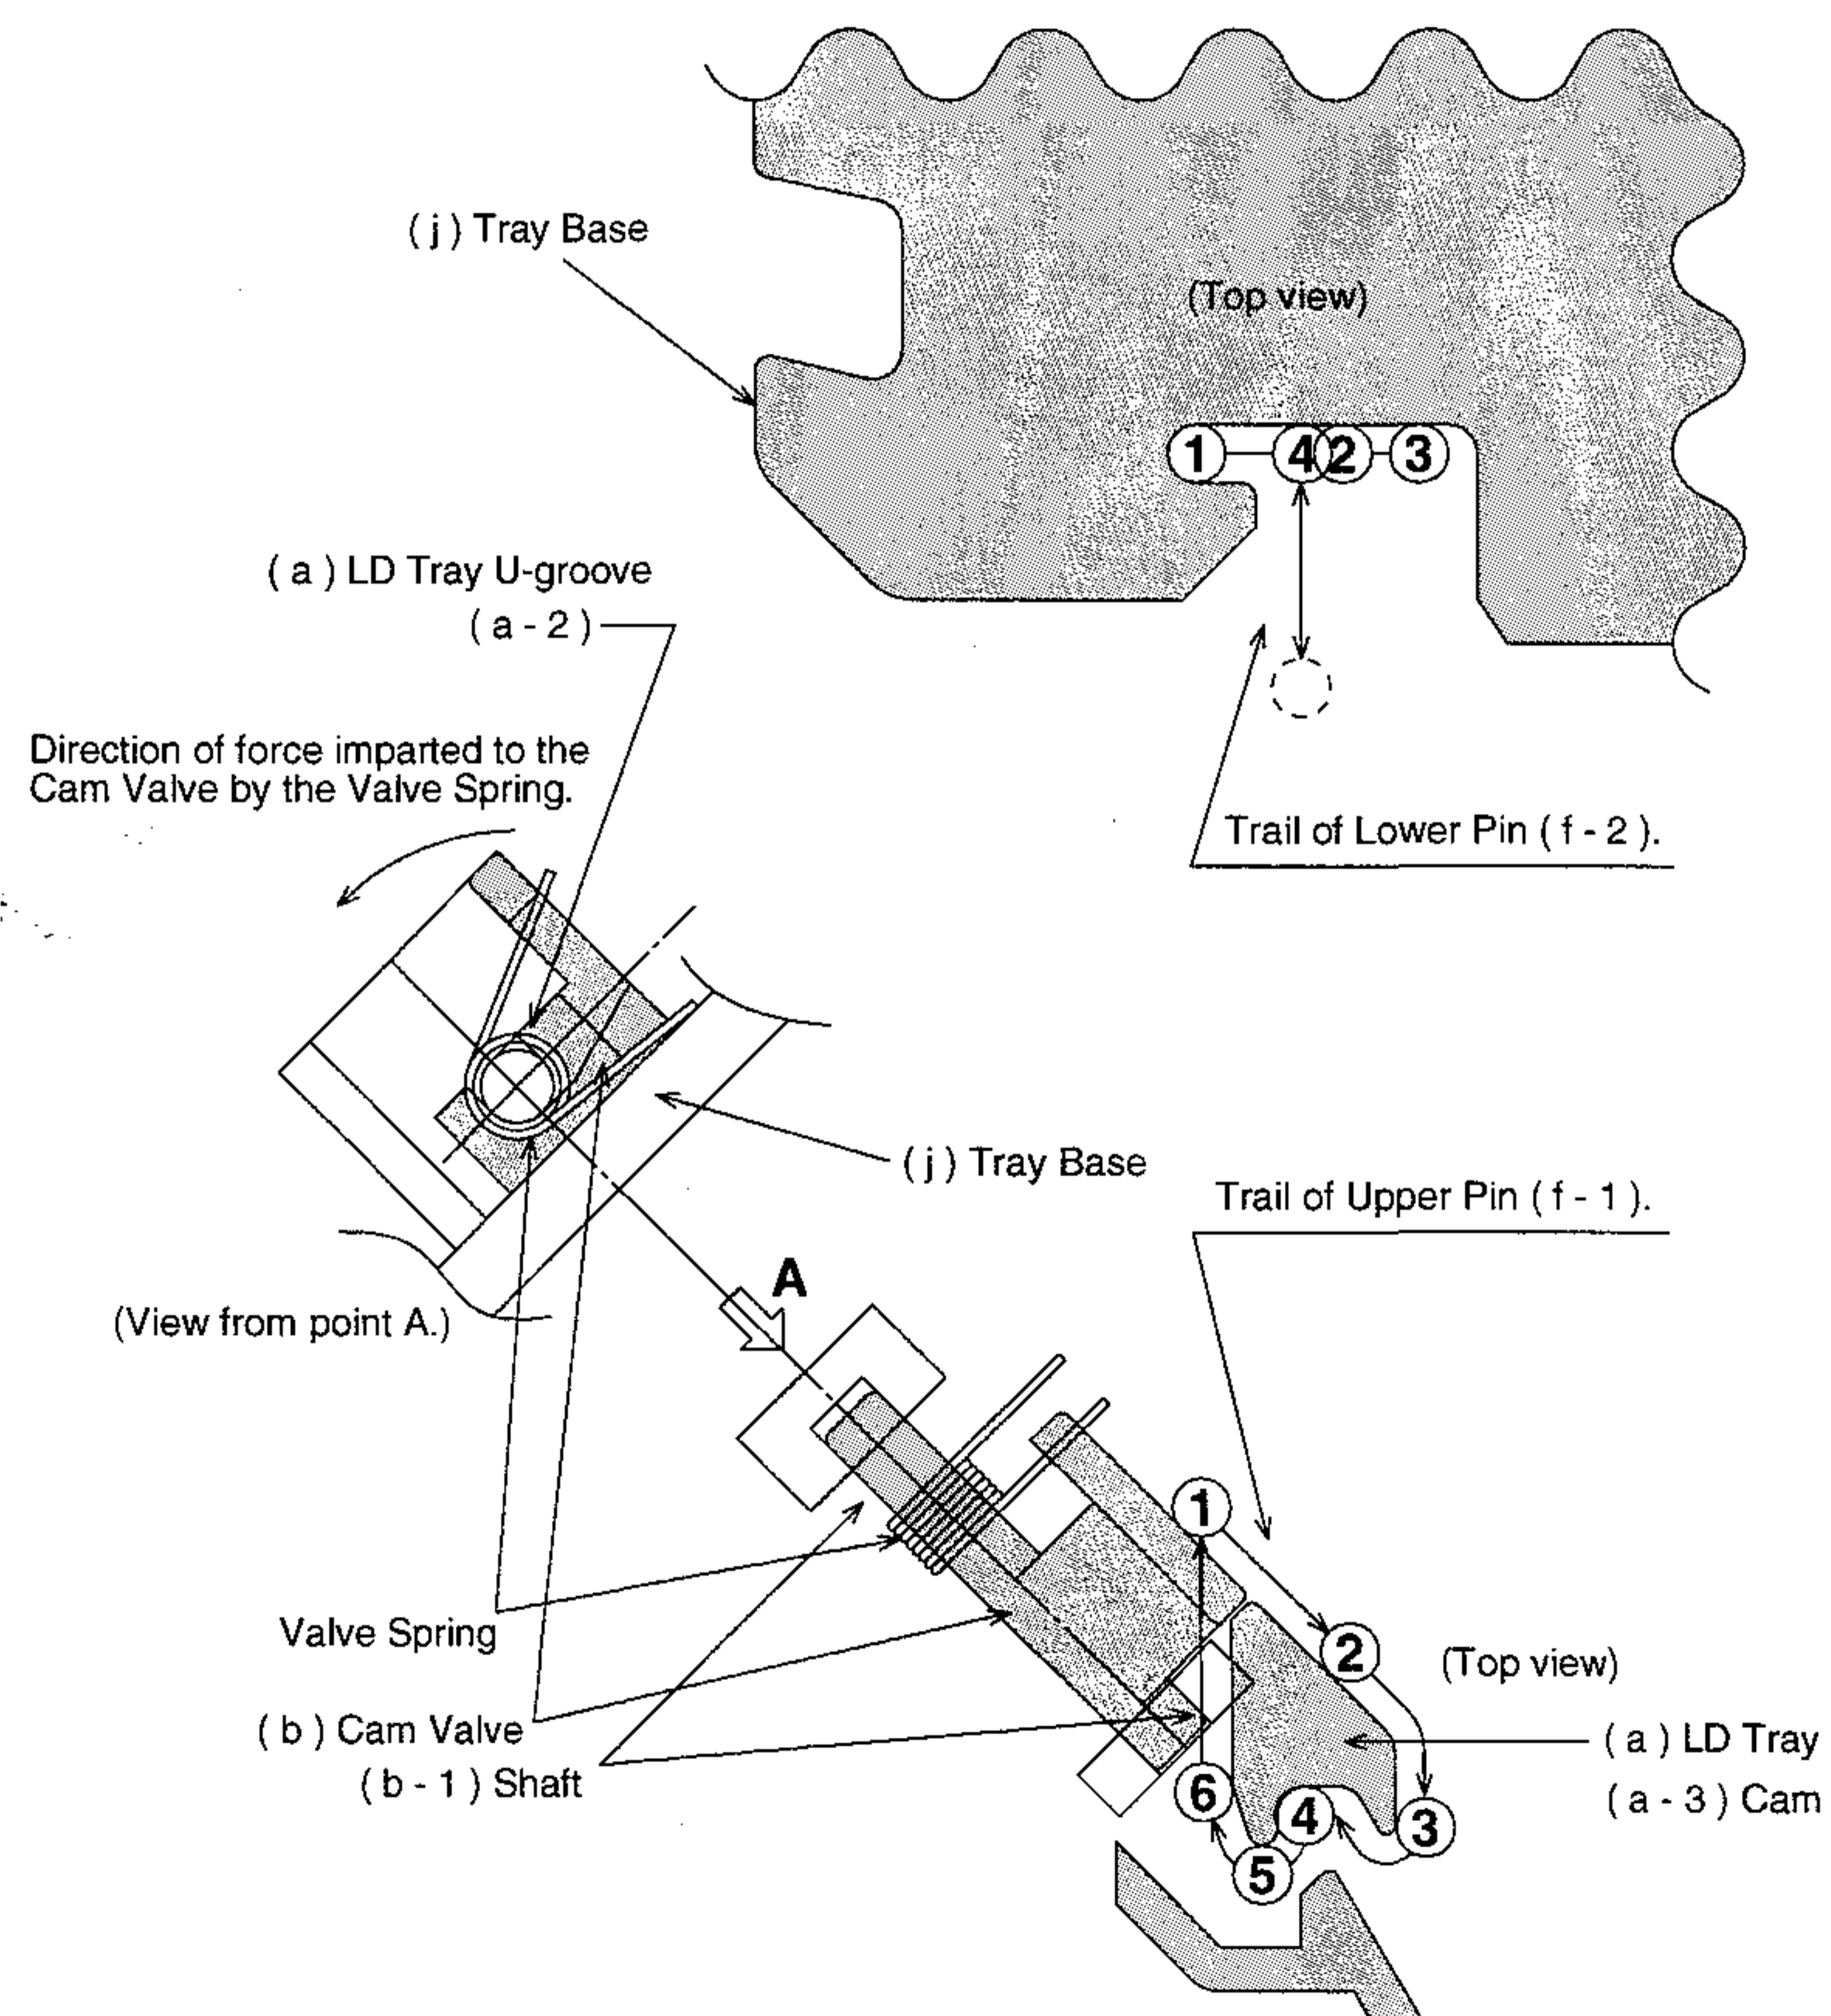

Fig.2-3 Trails of the Upper Pin (f-1) and Lower Pin (f-2) of the Lock Pin
- **(a) LD Tray** has a (a-3) Cam, with a (b) Cam Valve attached to a (a-2) U-groove, and a (h) Change Lever that moves onto the (a-1) Boss. (See Fig. 2-3 for details.)
- **(b) Cam Valve** has a (b-1) Shaft that engages (a) LD Tray, and can rotate around the shaft. Force is applied to (b) Cam Valve by a Torsion Spring. (See Fig. 2-3 for details.)
(1) CD Tray A: from the center of LD Tray to the front
- When (j) Tray Base moves toward the front of the LD Tray and reaches the (b) Cam Valve, (f-1) upper Pin is positioned along the (b) Cam Valve and (a-3) Cam, according to the movement of (j) Tray Base. Thus, (f) Lock Pin moves toward the right side of the LD Tray. (Fig. 2-3 ①)
- Once the (f) Lock Pin have shifted toward the right, (f-2) lower Pin disengages from (j-1) Cam of (j) Tray Base. However, (g) CD Tray A is continuously pushed forward by (j) Tray Base and (f) Lock Pin. (Fig. 2-3 ②)
- After (j) Tray Base and (g) CD Tray A have shifted forward, (f) Lock Pin passes the end of (a-3) Cam of LD Tray and move toward the left under the force imparted by the spring. (Fig. 2-3 ③ and ④)
- At this time, (g) CD Tray A comes in contact with (h) Change Lever and is pushed toward the rear. Thus, (f-2) lower Pin is held in the valley of (a-3) Cam of LD Tray. (Fig. 2-3 ④) Thus, (g) CD Tray A is secured in a position in front of LD Tray, and (c) CD Tray B in the center of LD Tray.
(2) CD Tray A: from the front to the center of LD Tray
- (f-1) upper Pin slips from the valley of the (a-3) Cam of LD Tray, then moves toward the left under the force of the spring and reengages (j-1) Cam of Tray Base. (Fig. 2-3 ⑤)
- (g) CD Tray A moves to the center of LD Tray together with (j) Tray Base. (Fig. 2-3 ⑥) At this time, the (f-1) upper Pin pushes the (b) Cam Valve to open. (Fig. 2-3 operation from ⑥ to ①)